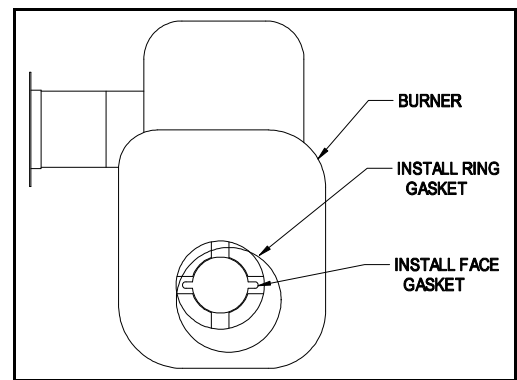
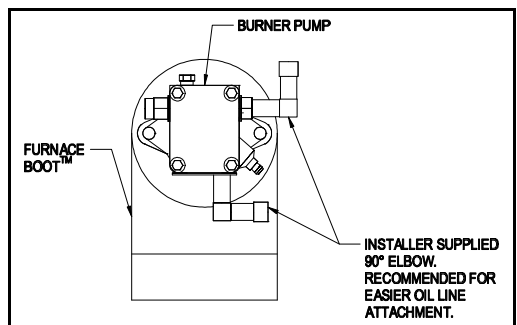
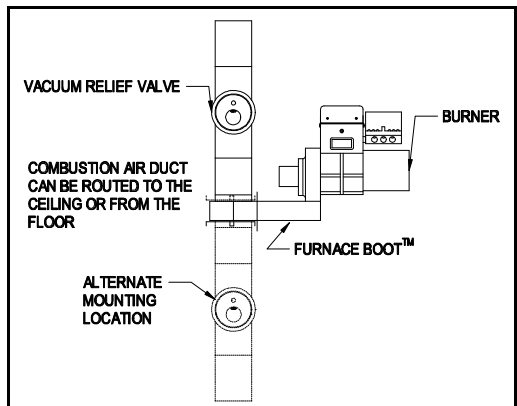

Figure 2
Figure 3
Figure 4
2. Remove the oil pump and air bands from the burner housing! Install the sealing gaskets onto the burner housing. (See Figure 2) Replace existing pump coupling with the coupling supplied with the Furnace Boot™. Position the Furnace Boot™ over intake on the burner housing. Align the holes in the Furnace Boot™ with the holes in the housing and re-attach the oil pump. (See Figure 3) **Note:** Replace pump coupling with the coupling supplied with kit. The Furnace Boot™ extension is mounted from the outside of the furnace cabinet and can be mounted to allow the routing of the duct pipe from the ceiling or from the floor. (See Figure 4) Assemble VRV balance weight onto the gate. Screw the weight all the way in. Then attach lock nut and knurl nut. (See Figure 4)
4. Mount VRV tee assembly or 90° elbow onto the Furnace Boot™ intake. Fasten using three (3) sheet metal screws on all joints. (See Figure 4)